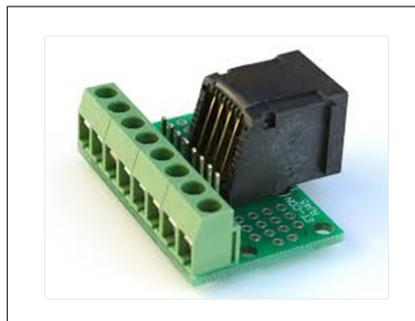

Fig 2: Adaptador para RJ45
- RJ45-TERM (Gravitech.us) Fig 2